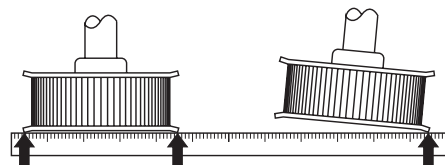

Figure 3 — Angular Misalignment
**Angular:** Angular misalignment results when the drive shafts are not parallel (see Fig. 3). As a result, the belt tensile cords are not loaded evenly, resulting in uneven tooth / land pressure and wear. The edge cords on the high tension side are often overloaded. Overloading often results in an edge